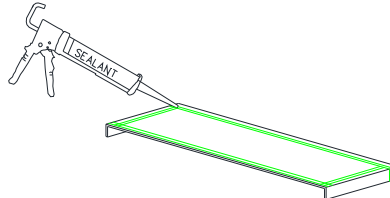

Figure 13:
3. With bottom side of sillpan up, apply a 3/8" bead of compatible sealant 1/2" in from interior leg. Sealant bead to run across the bottom as well as up each vertical leg of the sillpan. Also apply sealant beads near the sides and across the front (Figure 13).